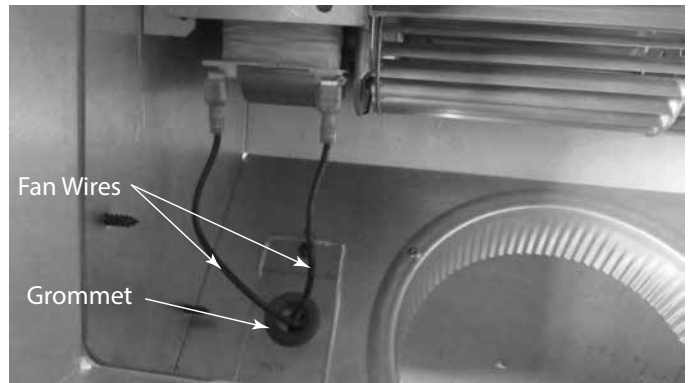

Figure 3.32
- Insert the fan wires through the grommet and into the junction box. See Figure 3.32.